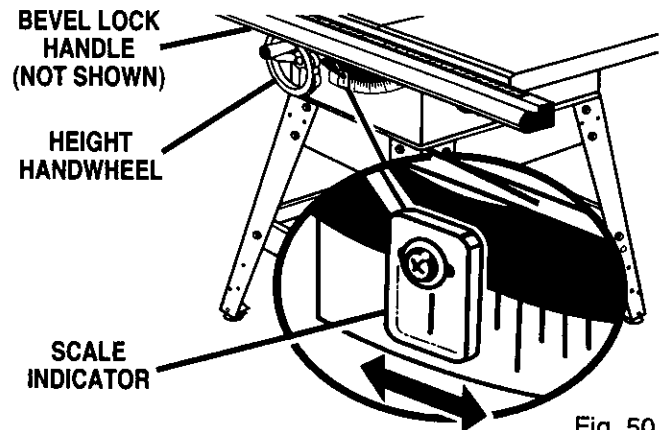

Fig. 50
See Figures 50 and 51.
- Loosen the bevel lock handle and turn the bevel handwheel clockwise to tilt the blade. See Figure 50. Reverse it and turn the handwheel counterclockwise until it stops.